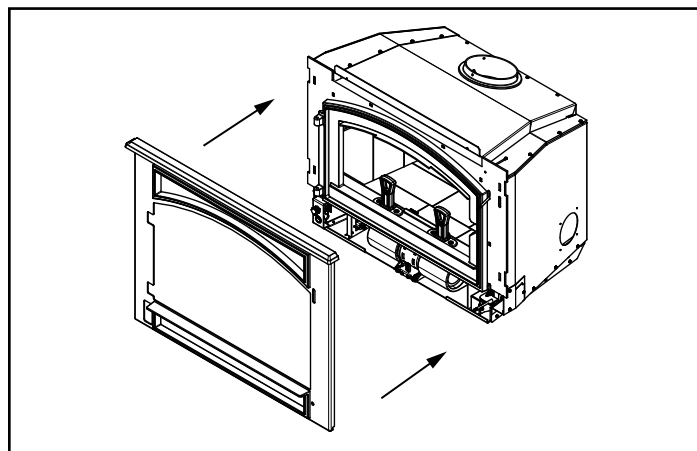

Figure 5.10
5. Reinstall face to front of appliance (Figure 5.10).
- 8. Reinstall face to front of appliance (**Figure 5.10**).